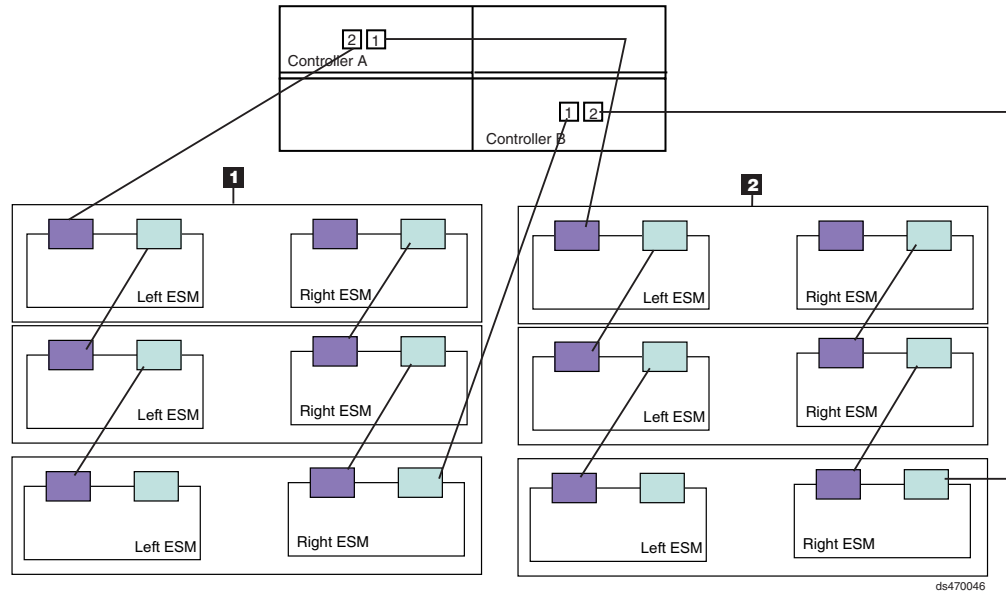

Figure 58. One DS4700 Express and two or more storage expansion enclosures in a mixed environment — Recommended cabling
A mixed configuration is a configuration in which you have more than one type of storage expansion enclosure. If possible, it is recommended that you do not mix different types of storage expansion enclosures in the same drive channel pair. Figure 58 on page 77 shows the recommended cabling topology if you have three EXP710s and three EXP810s attached to the DS4700 Express. (The EXP710s are denoted in the graphic as **1** while the EXP810s are denoted as **2**.)
**Note:** If you are mixing EXP100s with EXP710s and EXP810s, Figure 58 on page 77 is not the recommended cabling topology. Additional cabling rules and restrictions apply. See “One DS4700 Express and two or more storage expansion enclosures in a mixed configuration” on page 94.